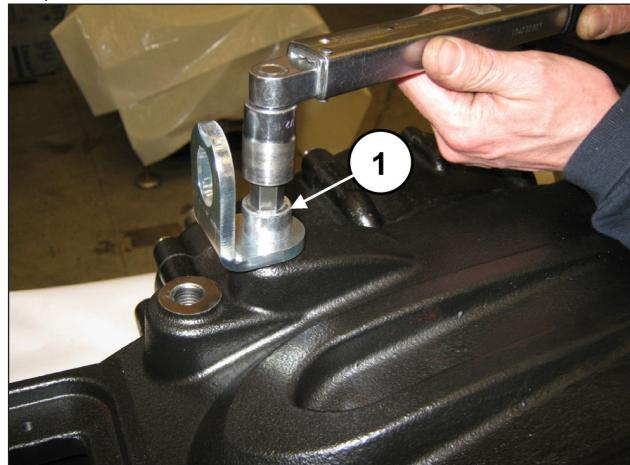

Fig. 95
Apply plugs and lifting brackets with the use of M16x30 screws (pos. ①, Fig. 95).